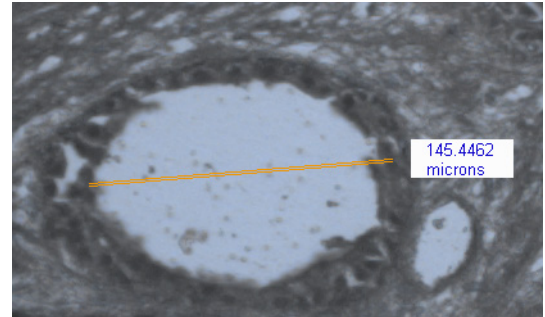

Figure 46 Ruler measurement
3. The software draws a line and displays a label showing the length of the line (see Figure 46).